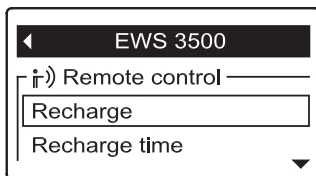

FIG. 114
2. Press the remote’s SELECT (○) button to display the device menu (See Figure 114).
3. If necessary, press the DOWN (▼) button to scroll through the menu options until **Recharge** is highlighted in a box (See Figure 114).
6. Press the SELECT (○) button. The display will go back to the conditioner/refiner menu (Figure 114).